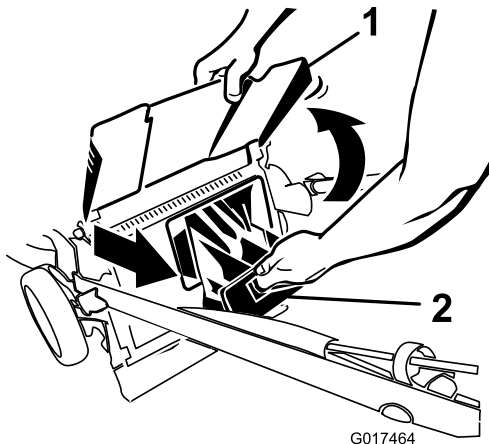

Figure 20
2. Raise and hold up the discharge deflector (Figure 20).
3. Pull out the rear discharge plug (Figure 20).